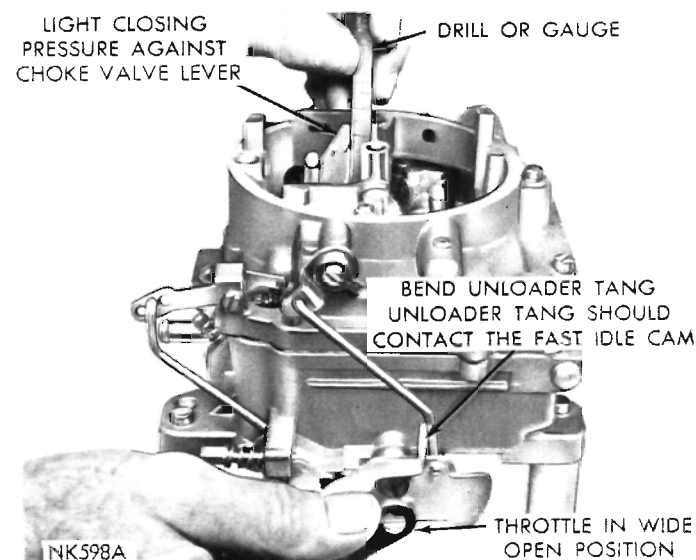

Fig. 16—Checking Choke Unloader (wide open kick)
(1) Hold throttle valves in wide open position. Insert specified drill (refer to Specifications), between upper edge of choke valve and inner wall of air horn (Fig. 16).
(2) With a finger lightly pressing against choke valve lever, a slight drag should be felt as drill is being withdrawn. If an adjustment is necessary, bend unloader tang on throttle shaft lever, using Tool T-109-41, until correct opening has been obtained (Fig. 16).